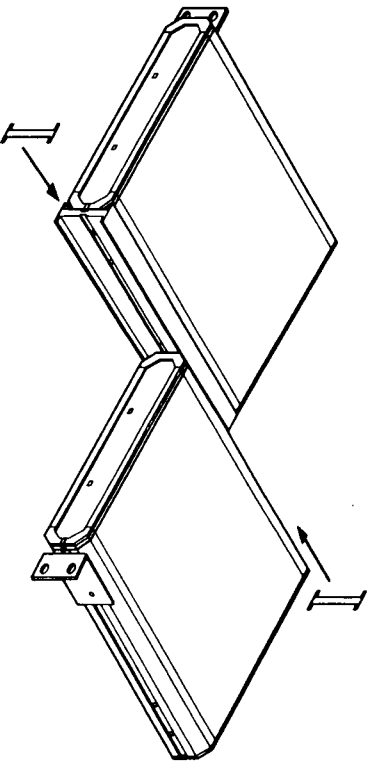

Figure 3-4. Installation of Two Units in a 19" Rack (b).
3. Slide one unit side rail within the other, so as to fasten the two units together (refer to Figure 3-4).